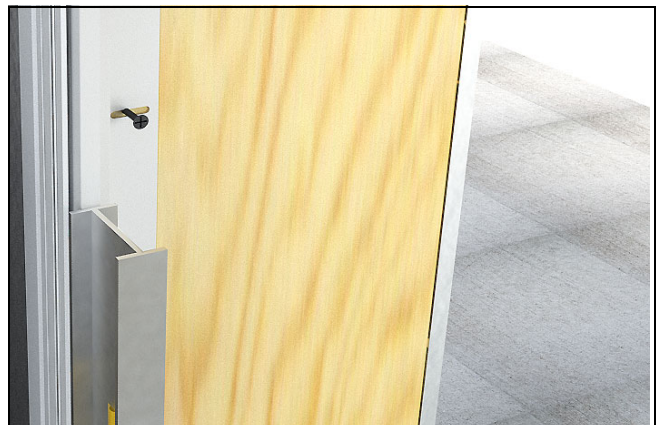

Figure 68
3. Plumb and true the pocket interlock, shim and install a few #8 x 3" black installation screws. Remaining screws will be installed after panels are installed. See figure 68.